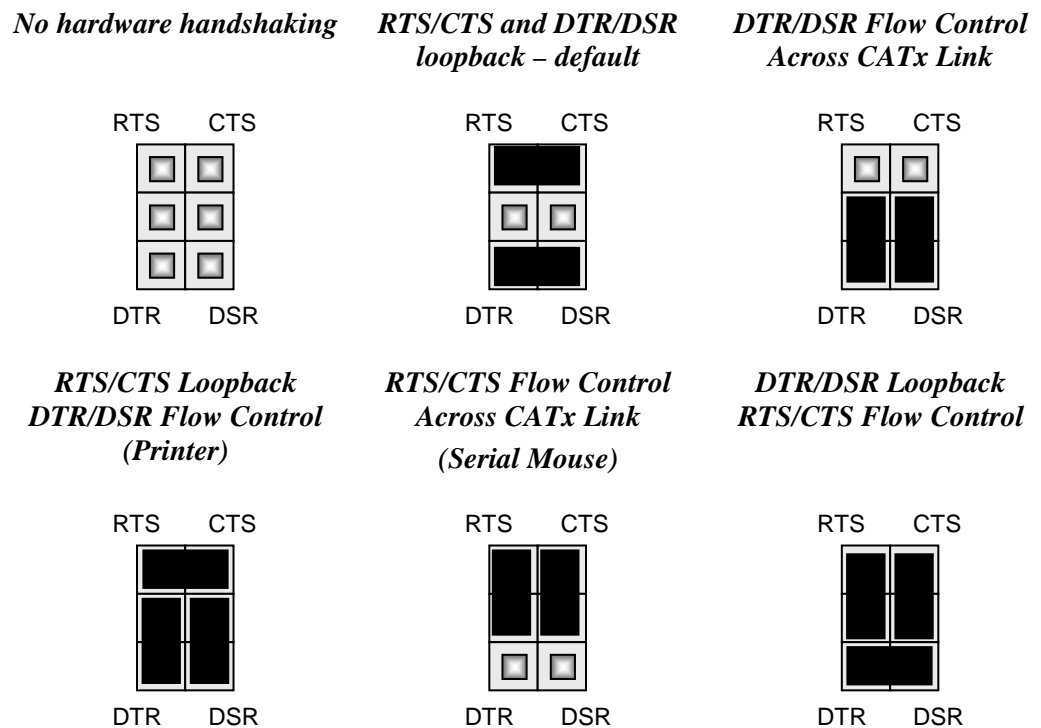

Figure 12 Jumper Settings on Flow Control block for various serial port flow control and handshaking configurations (see Figure 10 for location of jumper block)
4. Set the hardware flow control jumpers to **RTS/CTS Flow Control Across CATx Link** as shown in Figure 12. This mode will support most, but not all, serial mouse and trackball devices.